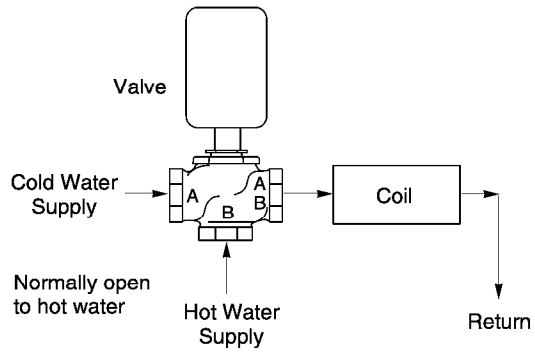
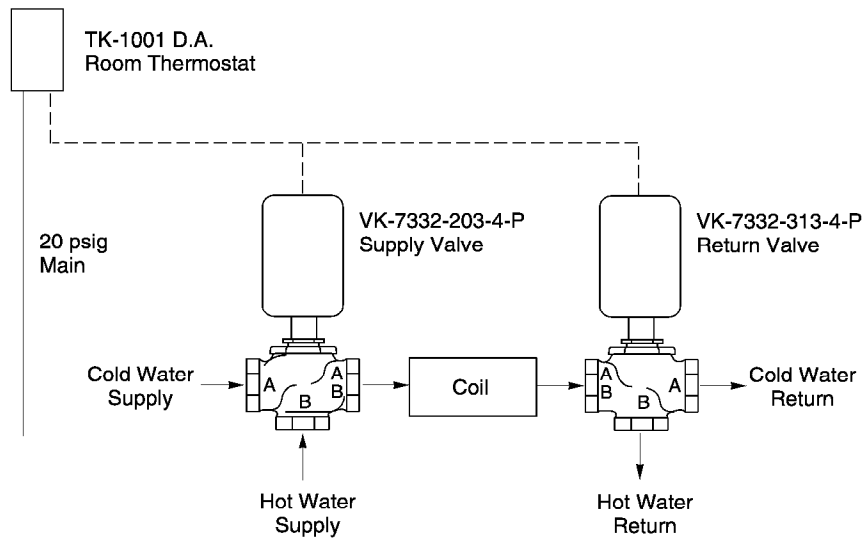

Figure-3 Typical Piping for Three-Pipe Single Coil.
Figure-4 Typical Piping for Pneumatic Four-Pipe Single Coil.
- Install the valve with the flow in the direction of the flow arrows (“A” and “B” ports are the inlets and “AB” port is the outlet except when used as a return valve). Refer to Figure-3 and Figure-4.
All piping must comply with local codes and ordinances. Refer to Figure-3 and Figure-4 for typical piping.
Table-6 Four-Pipe Flow Calculations for Valves in Series (Figure-4).